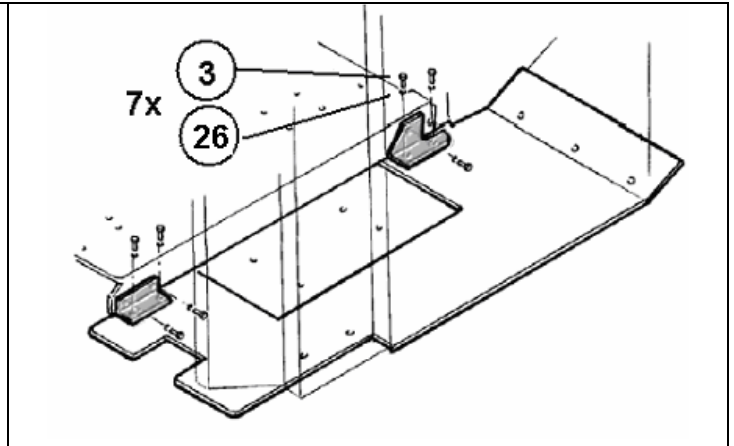

Figure 5-15. Floor Kit Installation (4 of 4).
3. Position brackets #975 and #986 between the passenger-side floor panel (#849) and the center floor panel (#815) as shown in Figure 5-15. Start the fasteners, but do not fully tighten them at this time